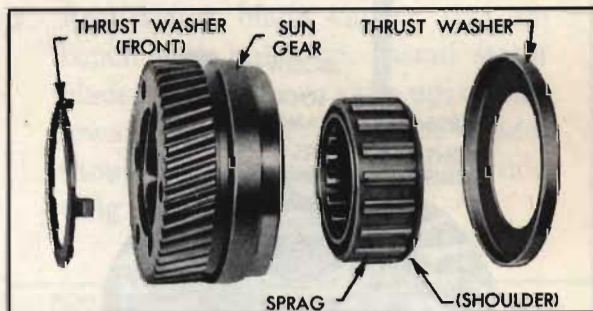

Fig. 6. Sun gear parts
6. Remove the free wheeling clutch (sprag) from the inside of the sun gear (Fig. 6).